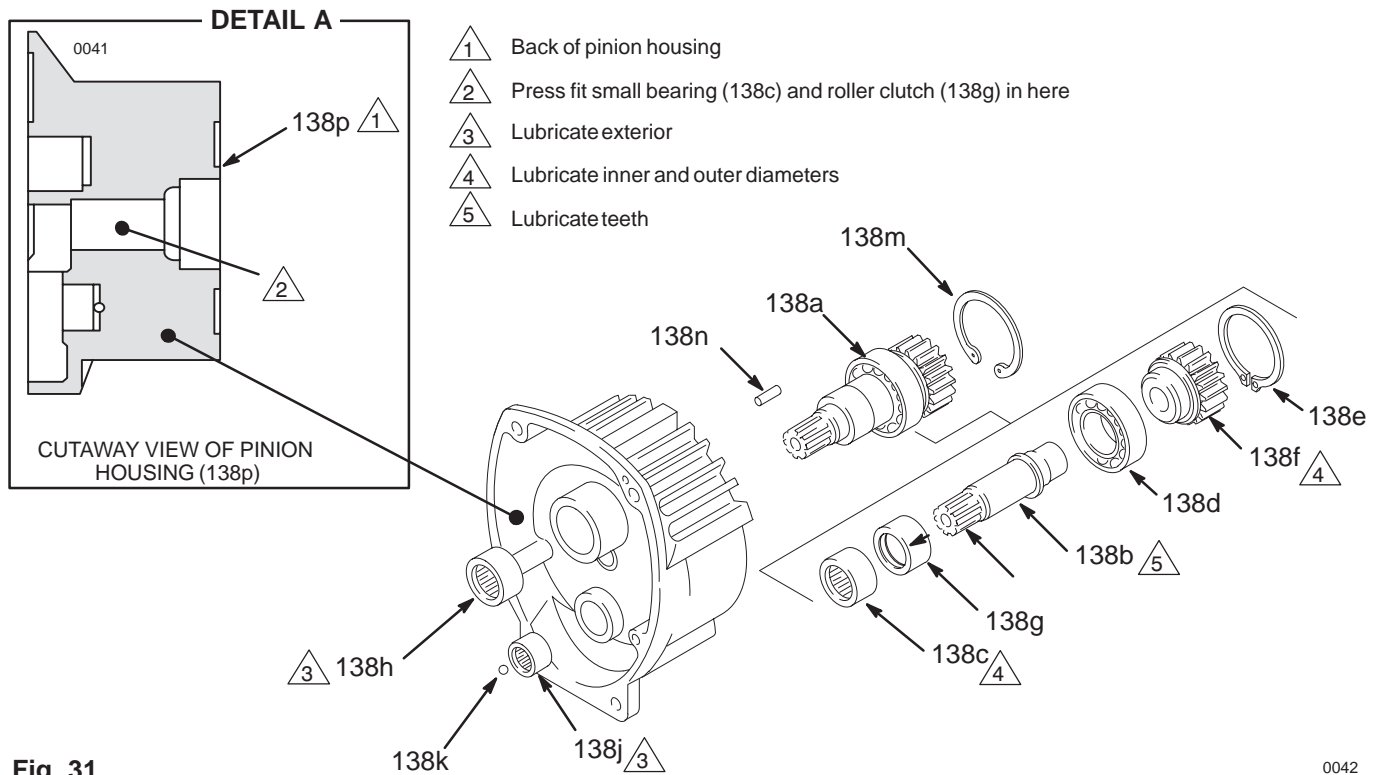

Fig. 31
NOTE: Refer to Fig. 31 except where noted.
4. **Using a hydraulic press**, place pieces of steel bar stock on the inner race of the large bearing (138d) and press the shaft through the hub and bearing. See Fig. 31.
5. Apply lubricant to the parts as shown in Fig. 31.
- Small bearing (138c) and then the roller clutch (138g), with its arrow pointing to the bearing, into the rear of the housing (138n). See Detail A in Fig. 31.